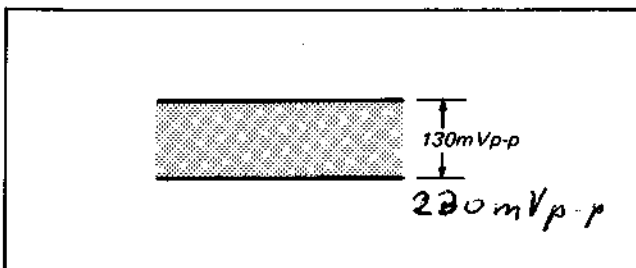

Fig. 4-4-20. Record current frequency characteristic adjustment
- (1) Set up the no-signal input state and set up the RECORD mode.
- (2) Connect the oscilloscope to TP1 and the GND probe to TP2.
- (3) Adjust RV6 for a signal level of 130 mVp-p. (See Fig. 4-4-20.)